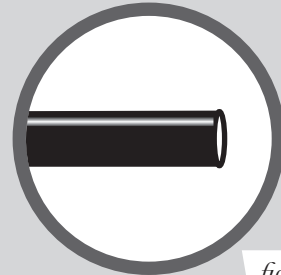

fig. 11
When cutting air lines, use a sharp knife or a hose cutter and make clean, square cuts (Fig. 11). Do not use scissors or wire cutters because these tools may deform the air line, causing it to leak around fittings. Do not cut the lines at an angle.
- a. Check the air line connection by deflating the spring and removing the line by pulling the collar against the fitting and pulling firmly on the air line. Trim 1" off the end of the air line. Be sure the cut is clean and square (see Fig. 11). Reinsert the air line into the push-to-connect fitting.